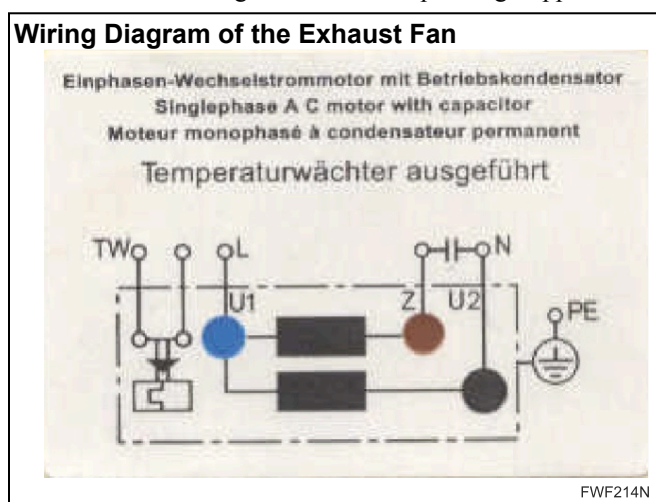

Figure 54
- The main exhaust fan is radial with vanes bent backwards, and with an integrated single-phase induction motor. The temperature protection is integrated into the motor winding (refer to *Figure 54*).